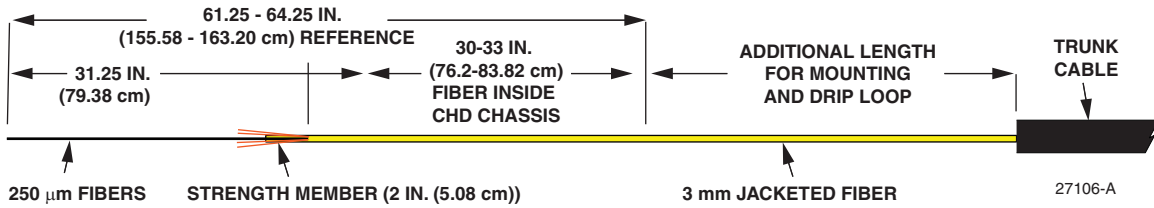

Figure 11. Feeder Cable Breakout Dimensions
- Prepare feeder fibers for installation 31.25 in. (79.38 cm) is the initial length for use in the splice cassette. 30-33 in. (76.2-83.82 cm) of jacketed fiber will be required inside the CHD panel for proper drawer movement. Additional length from trunk cable mounting location will need to be determined by installer (includes desired drip loop and routing length). See Figure 11.